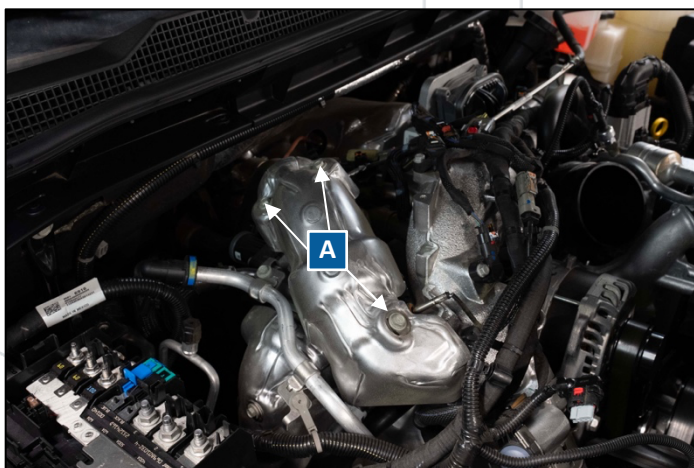

Figure 16: EGR Heat Shield
**24. Remove upper EGR heat shield, 10mm hex head bolt x3 (labeled as A in Figure 16).**